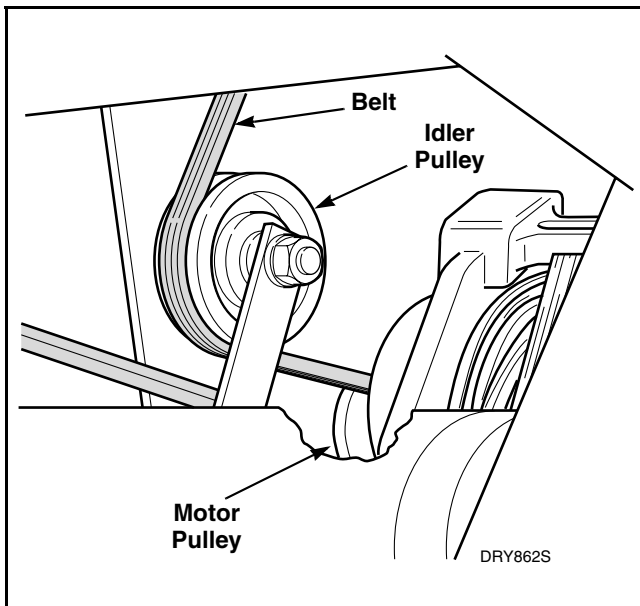

Figure 26
- d. Disengage belt from motor and idler pulleys. Refer to *Figure 26*.
NOTE: When installing belt, be sure it is properly positioned around cylinder and on motor and idler pulleys. Refer to *Figure 26*.
NOTE: When reinstalling cylinder, be sure belt is properly position around cylinder and on motor and idlers pulleys. Refer to *Figure 26*.
NOTE: When installing cylinder, be sure belt is properly positioned around cylinder and on motor and idler pulleys. Refer to *Figure 26*.